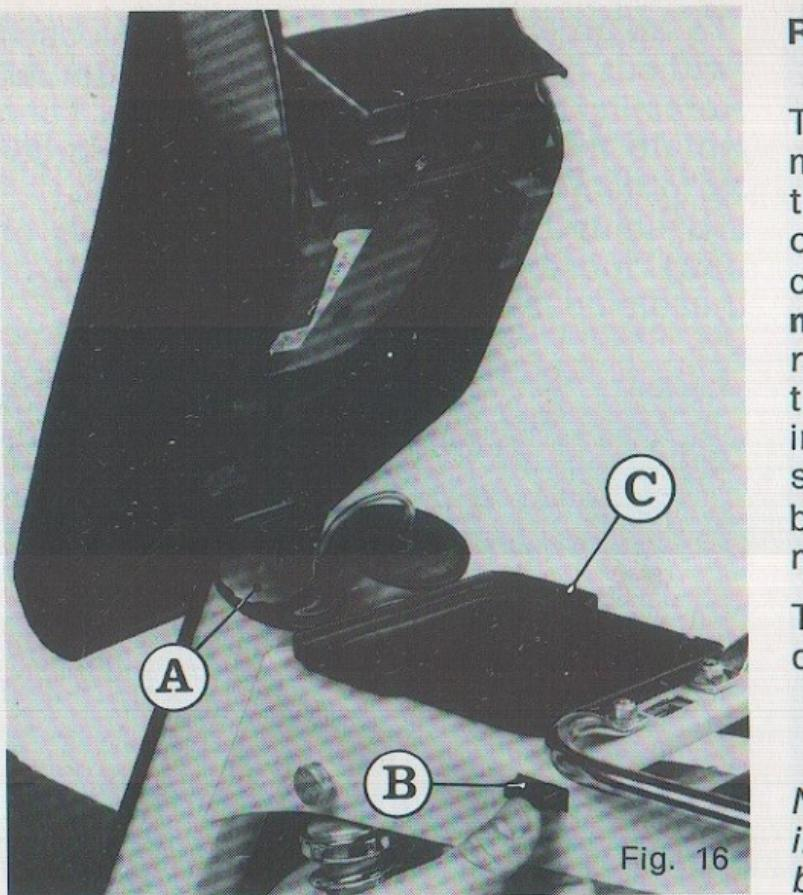

Fig. 16
8. Button to raise saddle and gain access to the tank filler cap and tool kit housing (see fig. 16).
Saddle To raise saddle push in the button « B » (fig. 16) to gain access to tank filler cap « A ».